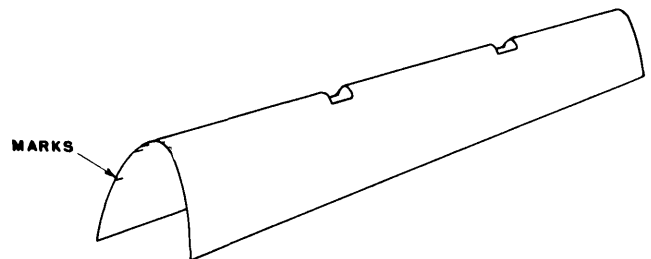

Fig. 4
6. Proceed to the next smaller radius over the remaining portion (D) and so on. Note roll positions for each radius.
7. Fig. 4 below illustrates the appearance of the finished skin.